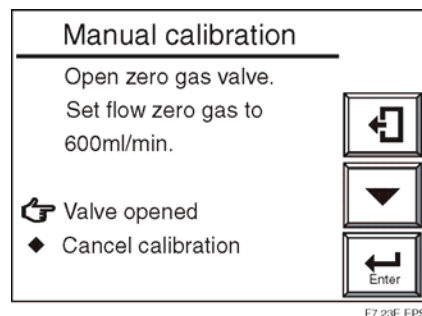
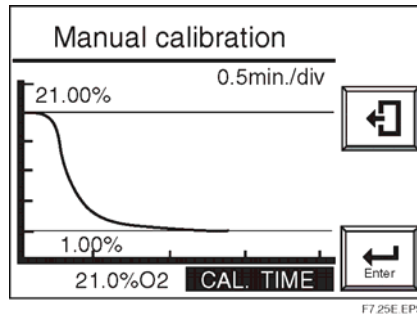

Figure 7-29 Zero-gas Flow Display
Figure 7-30 Manual Calibration Trend Graph
- Follow the prompt in Figure 7-29 to establish the zero gas flow. Open the zero-gas flow valve of the Flow Setting Unit by loosening the valve lock-nut and slowly turning the valve shaft counterclockwise. Set the flow to  $600 \pm 60$  ml/min. as measured by the calibration gas flowmeter.
8. After the zero gas flow has been established, select “Valve opened” as shown in Figure 7-29. An oxygen-concentration trend graph screen appears (see Figure 7-30). The CAL TIME in the bottom area of the panel flashes. Observe the trend graph and wait until the measured value stabilizes in the vicinity of the zero-gas concentration on the graph. The graph shows the concentration before calibration, so the value may not be correct at this point.